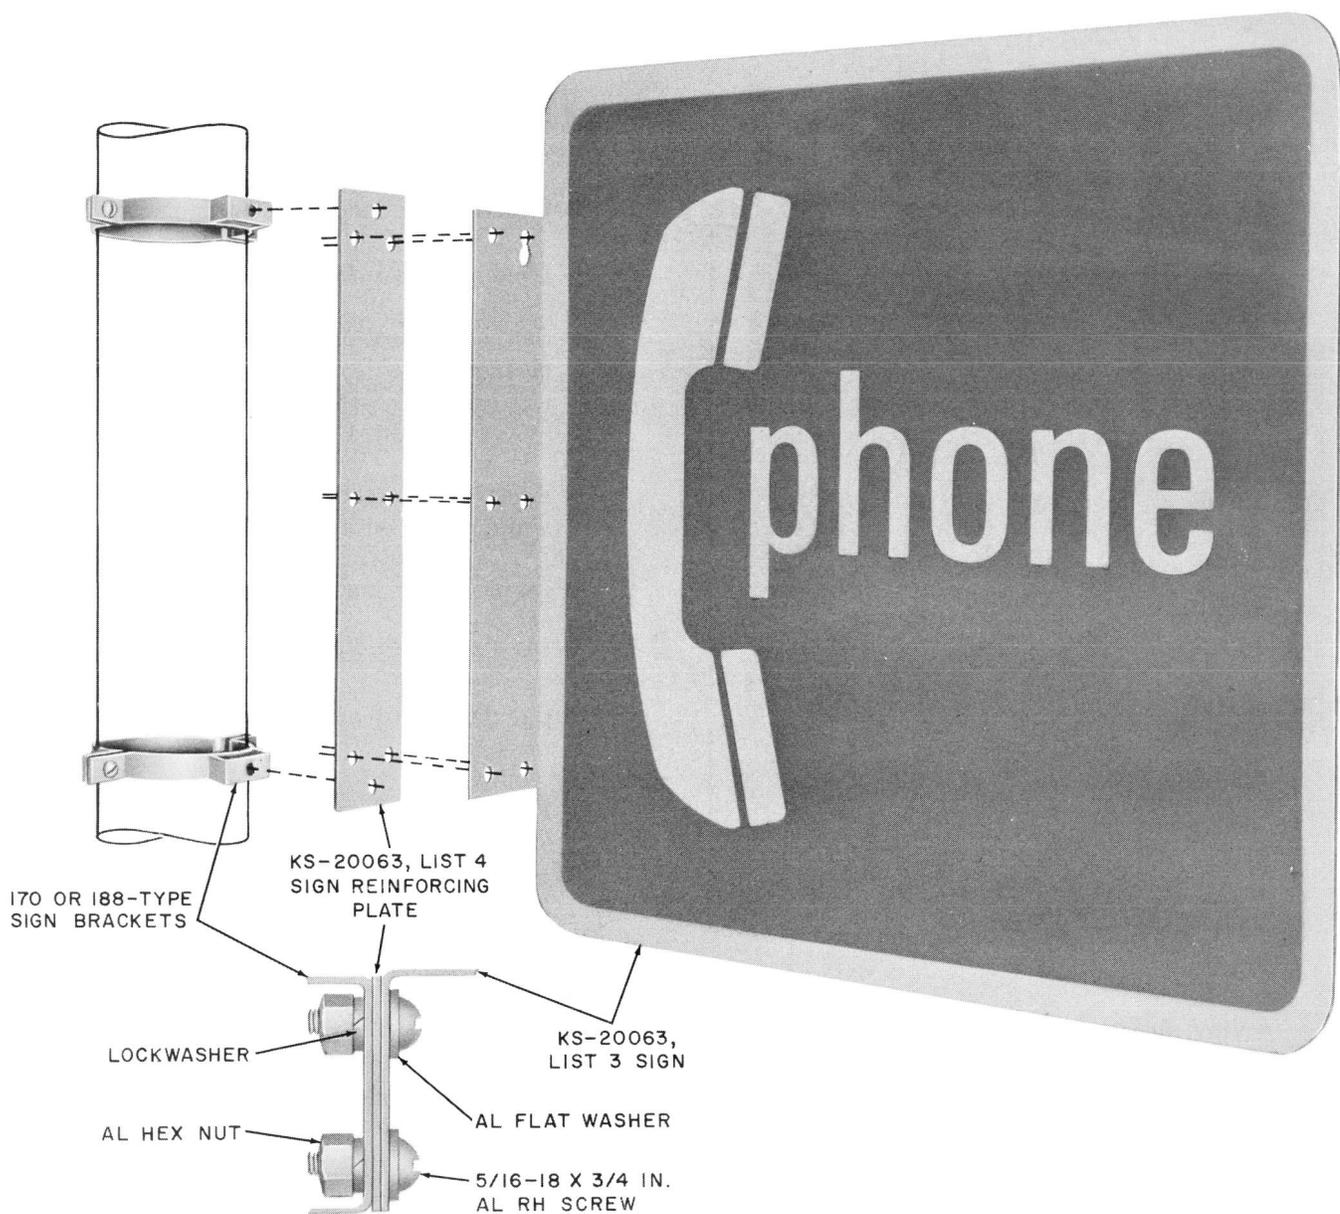
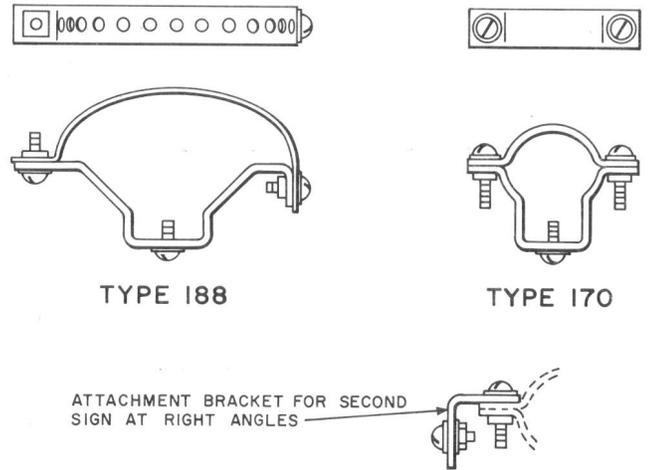

Fig. 8—KS-20063, List 3 Sign—Pole Mounted
Fig. 19—170- and 188-Type Sign Brackets
- (a) KS-20063, List 4 sign reinforcing plate (Fig. 8 and 9)
- (b) Metal pole (Fig. 8)
- Refer to Fig. 8, Fig. 19, and Table B for complete description of brackets
KS-20063, List 3 signs, pole mounted or corner mounted, require a KS-20063, List 4 reinforcing plate to prevent buckling (Fig. 8 and 9)